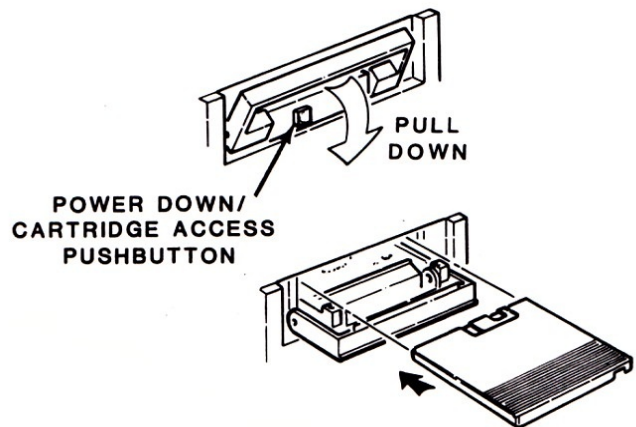

Figure 5.
3. Gently slide the cartridge into the disk drive as shown in the Figure 5. until it snaps in place.